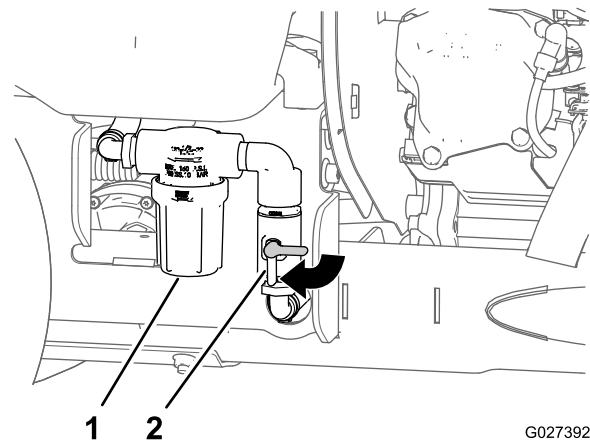

Figure 43
6. Rotate the pump-shutoff valve clockwise to the Open position (Figure 43).